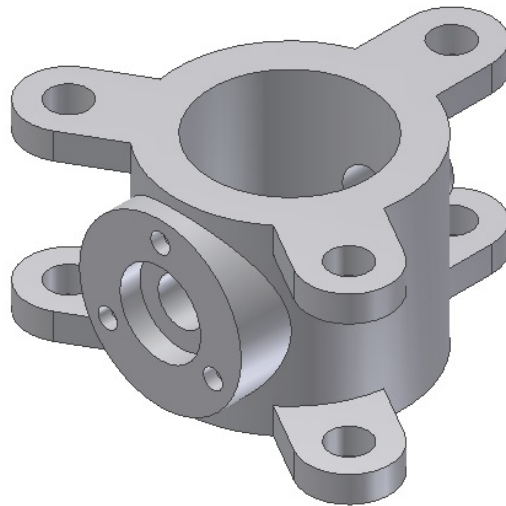

Figure 7-85 Final model after editing the features
- f. After creating the features, edit them as mentioned in the tutorial description; refer to Figure 7-85.
3. Choose the **Update** button from the **Update** panel of the **Manage** tab; all the six instances of the third join feature are automatically modified. The model after editing the feature is shown in Figure 7-85.